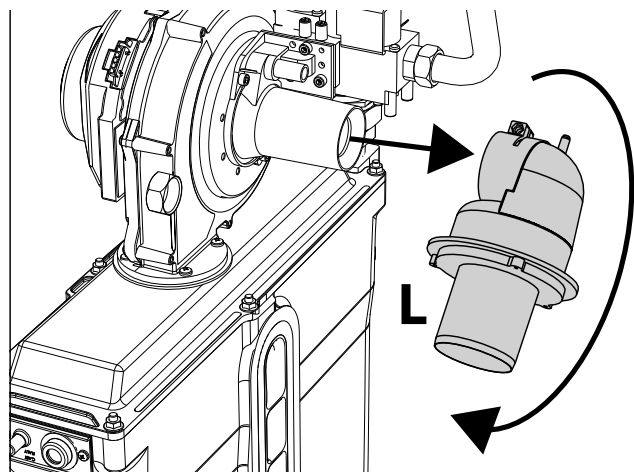

fig. 67
4. Rotate and remove the silencer "L" (see fig. 67).